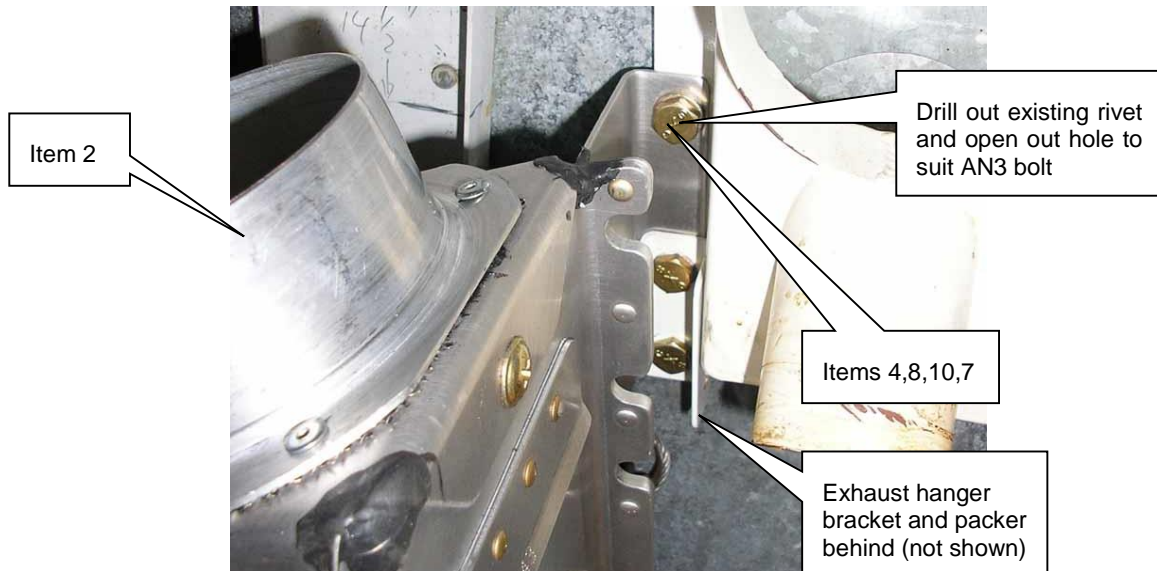
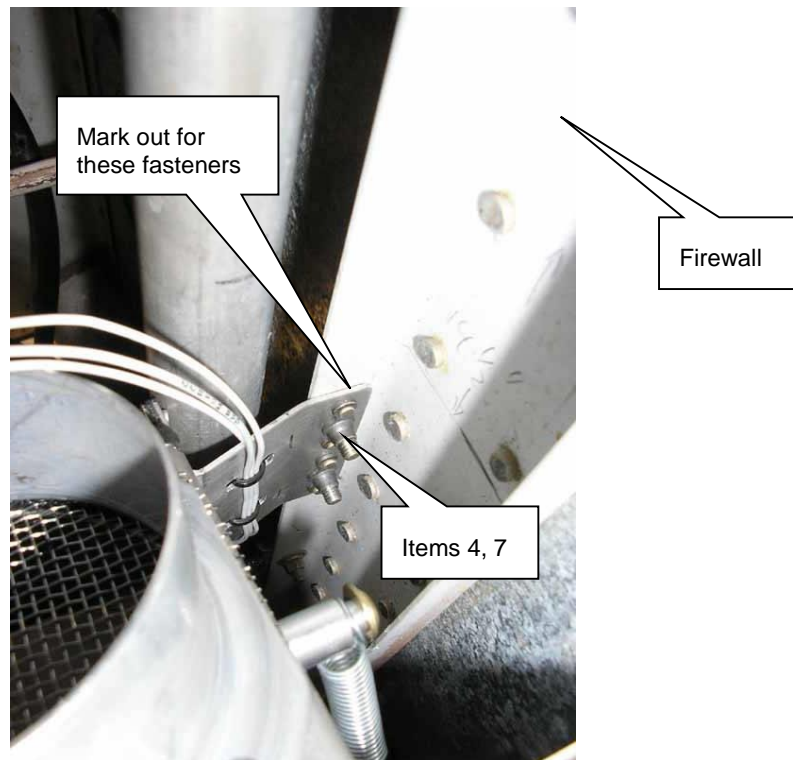

Figure 1
Figure 2
8. Drill out the 5/32" (3.97mm) rivet, directly above where the exhaust hanger bracket was (see Figure 1) and open out to suit AN3 bolt.
9. Place the new alternate airbox assembly over cabin heat valve assembly flange. Centrally align the 3 slotted holes. Refer to Figure 1.
10. While in place, mark out 2 holes in the side of the firewall channel and drill to suit AN3 bolt. Refer to Figure 2.
11. Remove the air intake plenum drain hose (3 sections and Tee piece), and replace with item 14 (one length of MIL-H-6000 ¼ hose 18.5 inches long).
12. Attach the new alternate airbox assembly with retained exhaust hanger bracket, and spacer, using AN hardware supplied in kit (see Figure 1). Fit three AN970-3 washers and three MS21042-3 10-32 reduced hex nuts on the inside of the firewall.